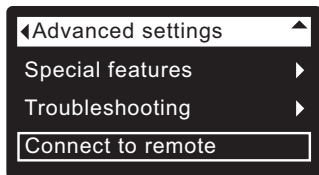
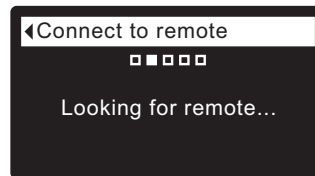
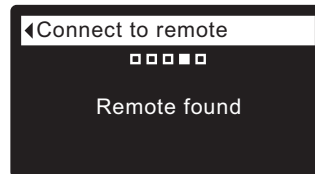
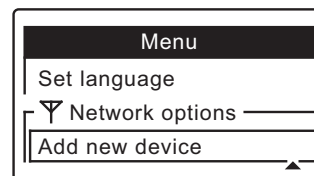

FIG. 41
FIG. 42
FIG. 43
FIG. 46
4. Press the conditioner/refiner's SELECT (O) button to display the Advanced settings menu (See Figure 41).
7. Press the remote's DOWN (▼) button to scroll through the menu options until **Add new device** is highlighted in a box (See Figure 46).
9. Make sure the conditioner/refiner's display still shows the screen in Figure 41. Press the conditioner/refiner's SELECT (O) button to display the "Looking for remote" screen (See Figure 42).
10. Within a few seconds the screen should change to show "Remote found" (See Figure 43). If, after about one minute, the conditioner/refiner's screen instead reads "New remote not found," press the conditioner/refiner's SELECT (O) button to return to the screen in Figure 41 and press the remote's LEFT (◀) button to return to the screen in Figure 46. Then repeat this procedure from Step 8. If the remote is not found after several tries, contact your dealer for service. Take note of the message on the remote's screen after an unsuccessful attempt, as it indicates the nature of the problem.
11. Press the conditioner/refiner's SELECT (O) button. The display will go back to the Advanced settings menu (Figure 41).
2. Press the DOWN (▼) button to scroll through the menu options until **Add new device** is highlighted in a box (See Figure 46).
4. When the remote detects a signal from the device, the display will change to show that it has been added to the remote (See Figure 48). If another message appears instead, indicating the device was not added successfully, press the LEFT (◀) button to return to the screen in Figure 46. Repeat Step 3. If this does not work, contact your dealer for service.